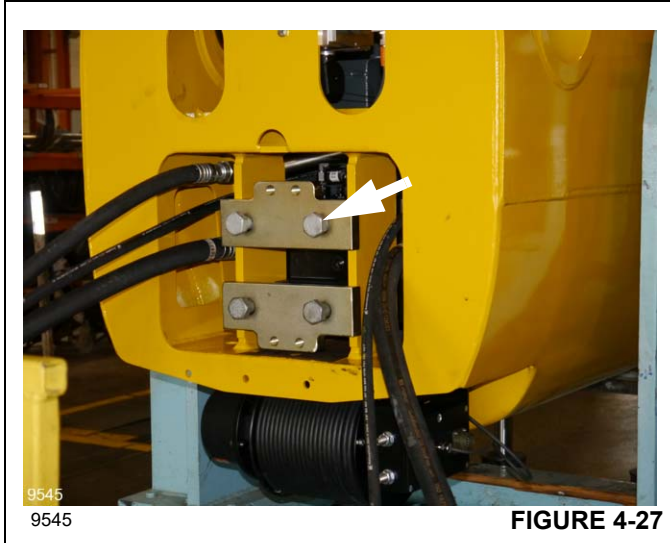

FIGURE 4-27
1. Connect a strap to tele 1, then using an overhead lifting device or another crane, lift tele 1 so the strips (66), holders (33) and sliders (30, 31, 32) can be installed.
6. Secure the strips and wear pads with the plates (36).
7. Climb inside the base section and remove the tie straps restraining the cylinder hoses. Route the hoses out the rear of the base section as shown in Figure 4-27.
8. Secure the tele cylinder with the four cylinder retaining bolts (Figure 4-27) and two retaining plates.